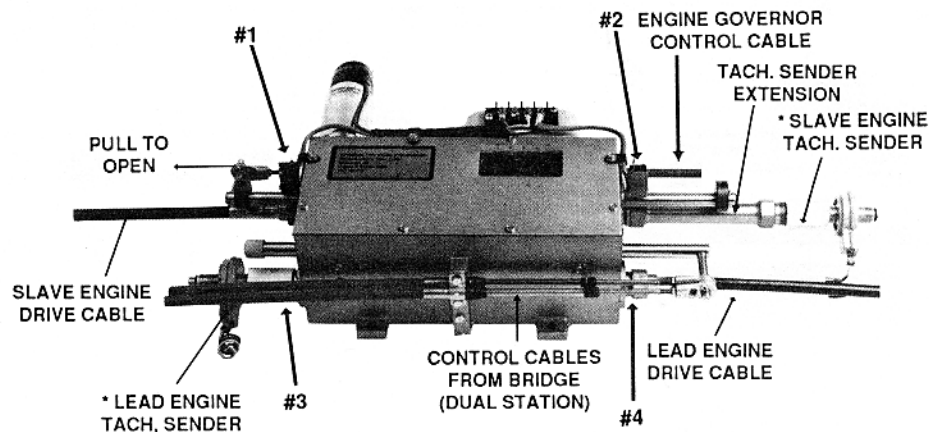

FIG. 5
- D. Drive cable connection is determined by using chart (at right) with information from "B" and "C" (above). (EXAMPLE: For tachometer clockwise rotation on both engines and pull to open, the slave is in #1 and the lead in #4 - See picture on Page 4) Fig. 5.
- A. Using Tach Sender Extensions connect the tachometer senders to the SYNCHRONIZER at the ends directly opposite the drive cable entry (See page 4, Fig. 5) and extend wiring to senders.